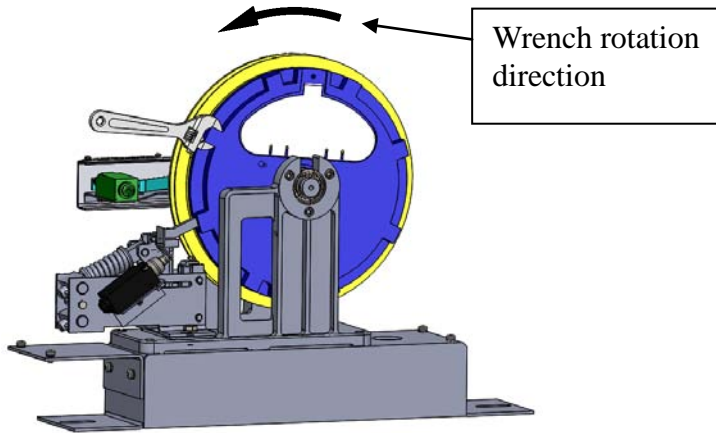
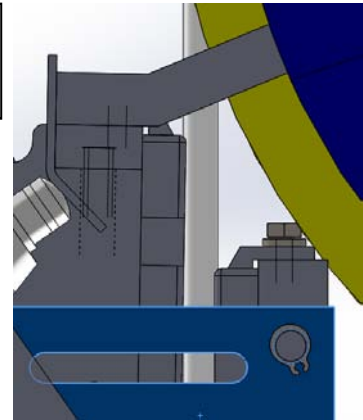
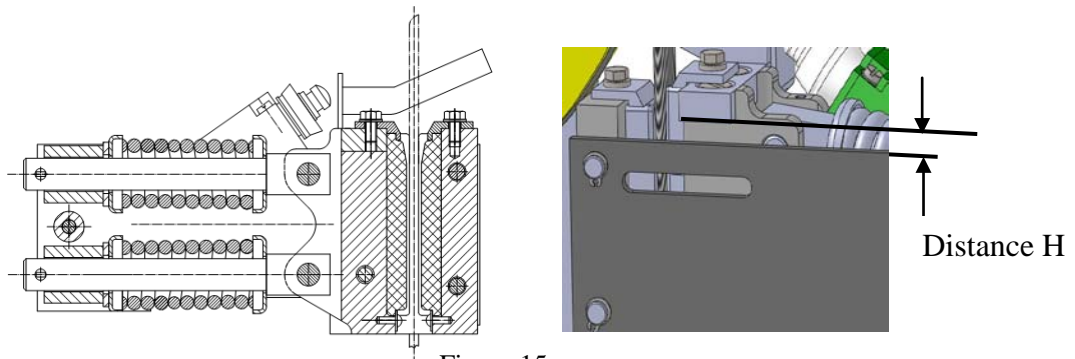

Figure 13
Figure 14
Figure 15
Step 2: As shown in Figure 13 with a wrench in the direction of the arrow diagram of brake drum (wrench on the brake drum position according to the situation, but also in the other position of the brake drum, to ensure safe and convenient, pay attention to the direction must be in the direction shown), brake drum rotates to drive the movable brake block down brake shoe, brake block activities and fixed on the brake block and the wire rope tightly, as shown in figure 14.
Step 3: On the basis of the state of Figure 14, the brake drum is continuously moved with the force of about 200N, and the sedan car is made at the speed of maintenance. Down, at this time the wire rope will drive the brake shoe to drop down, after two gate tiles to reach the clamping position, stop running, immediately take off the wrench and leave the speed limiter. The state of the brake unit after clamping the steel wire is shown in Figure 15, at this time $H=0\text{mm}$: